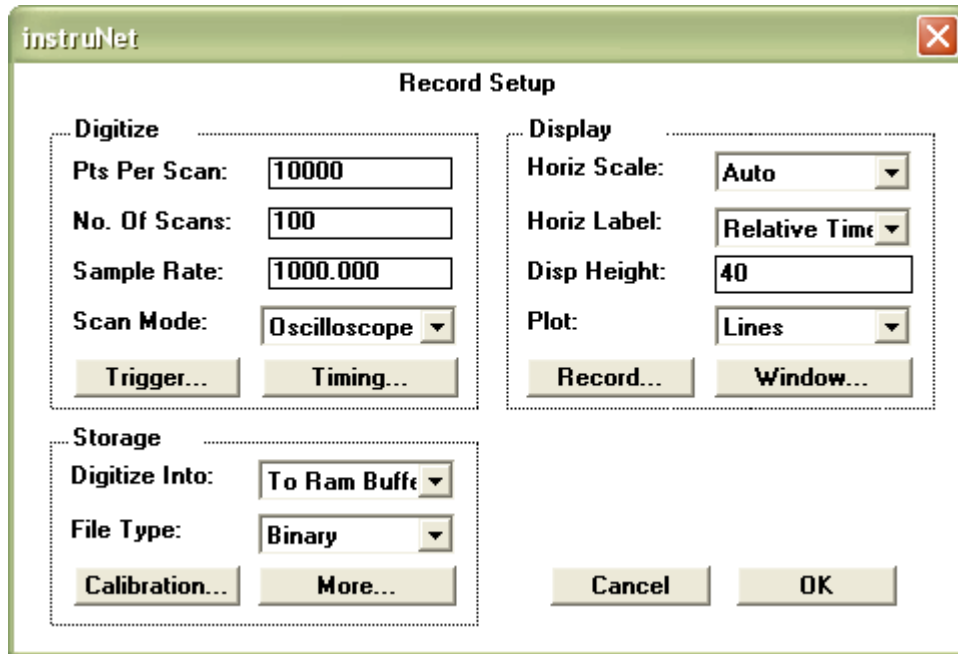

Figure 2.1 The Record Setup Dialog
- Click the Setup button to open the Setup dialog, as illustrated in Figure 2.1.
- Click the Setup button at the top of the Record page to open the Record Setup dialog, as shown in Figure 2.1.